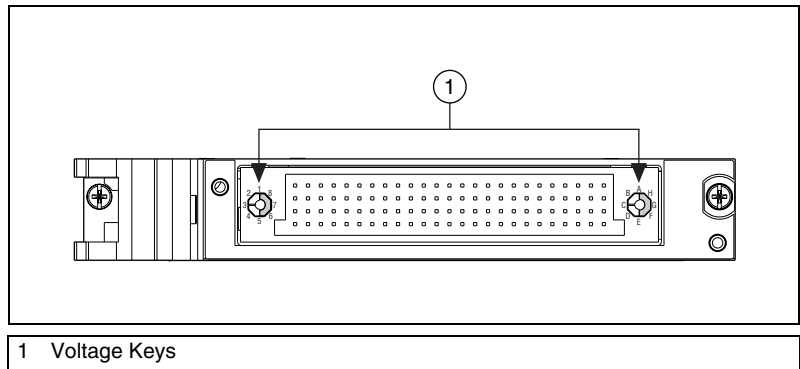
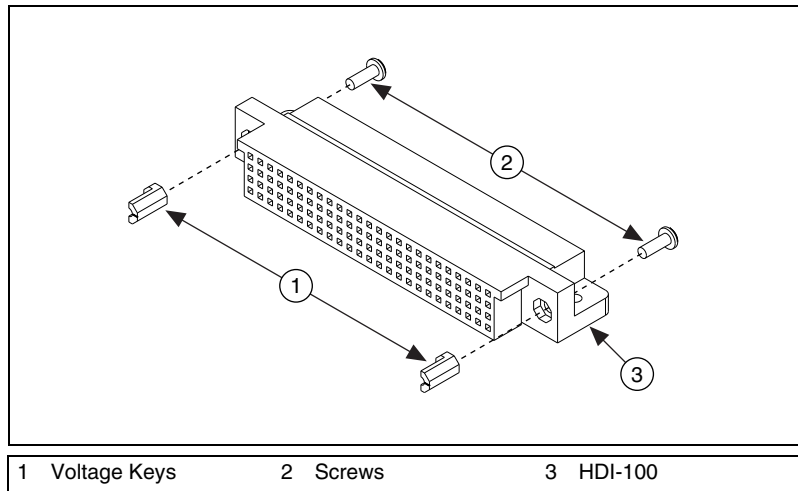

Figure 1. Switch Module with a Voltage Keying System
Figure 2. HDI-100 Assembled to Mate with the Switch Module in Figure 1
National Instruments switch modules that use the HDI-100 are installed with two, preset safety voltage keys. Each voltage key has eight possible positions. Letters designate the position of one voltage key; numbers designate the position of the other. Refer to Figure 1 to locate the voltage key positions of the switch module. Note that the voltage keys in Figure 1 are in the 3 and C positions.
1. Verify the voltage key positions, as shown in Figure 1, on the switch module to which you want to connect the HDI-100.
Figure 2 illustrates the HDI-100 assembled to mate with the switch module in Figure 1.